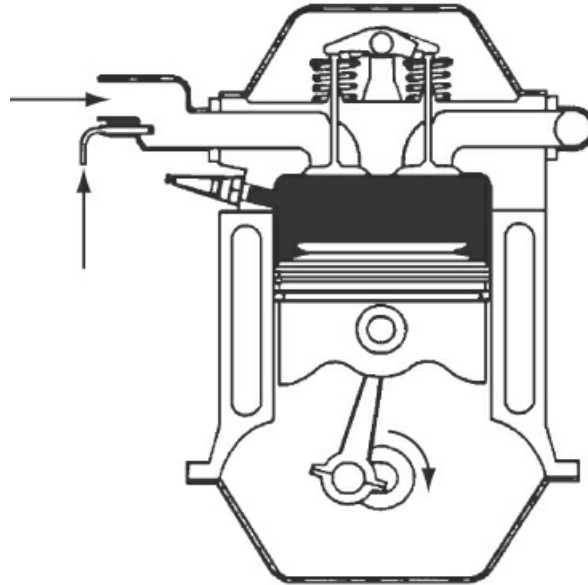

Figure P3.2.2
****3.2.2** Examine Figure P3.2.2, which shows a cylinder that is part of a Ford 2.9-liter V-6 engine. Pick a system and state it. Show by a crude sketch the system boundary. State whether your system is a flow system or a batch system and why (in one sentence).